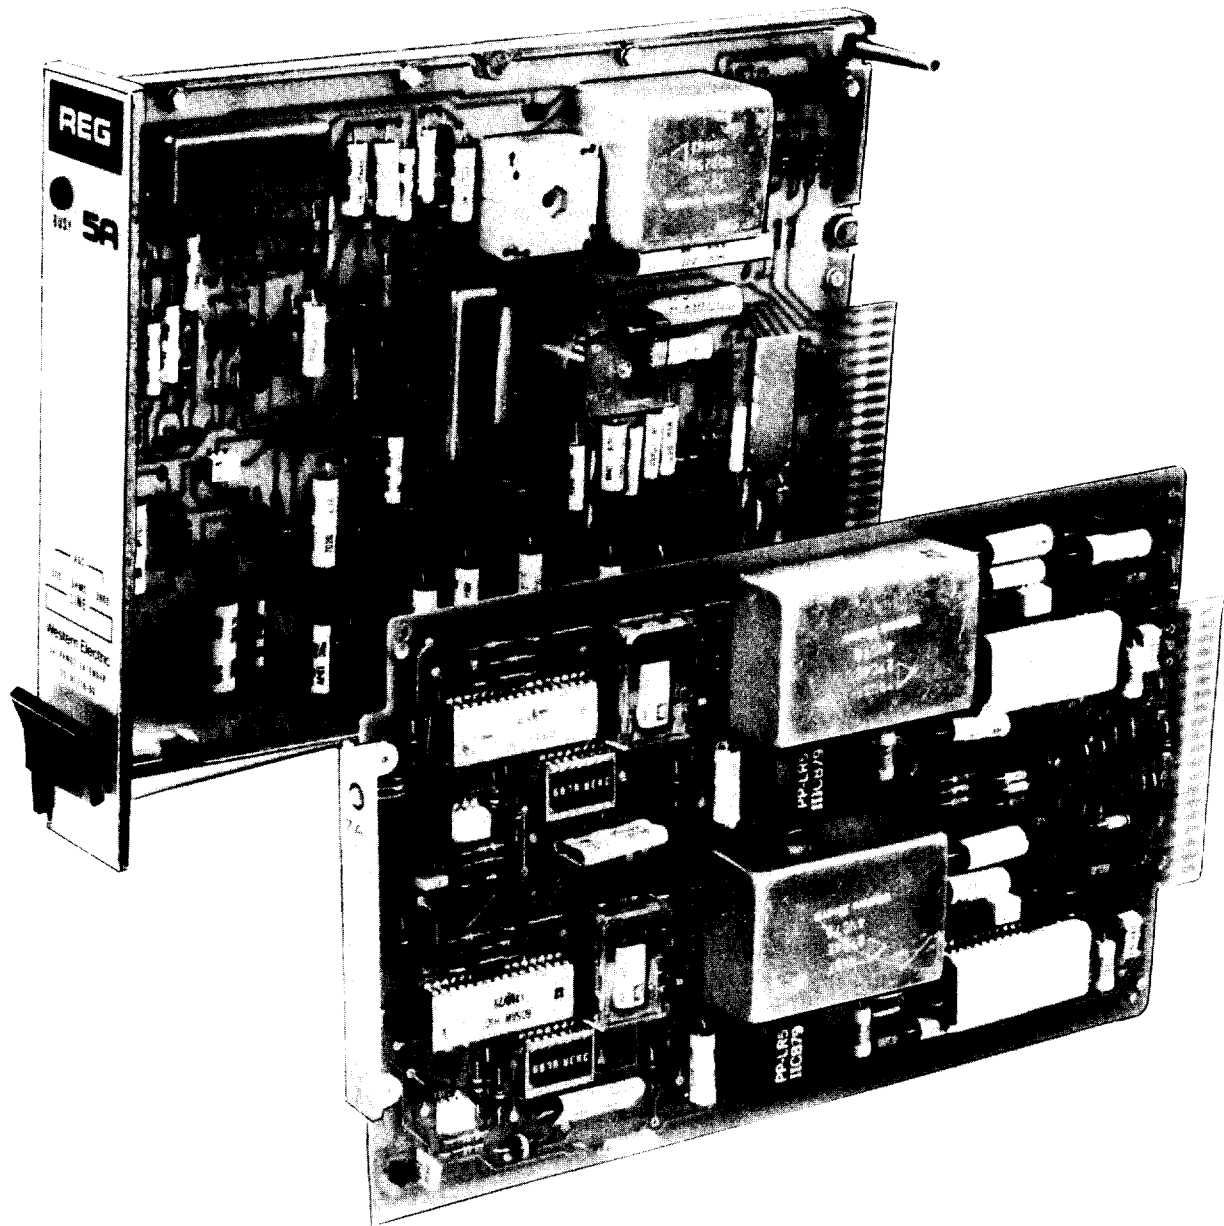

Fig. 3—Comparison of 7A REG to 5A REG
2.06 The 7A REG is similar in function to the 5A REG. The 7A REG, however, consists of entirely new circuitry with thin-film and silicon integrated components. The 7A REG has two range extension circuits per unit and is assembled on an epoxy glass board and has a plastic faceplate. The plug-in is approximately 6 inches high, 10-1/2 inches deep, and 1 inch wide. The plug-in is shown in Fig. 3 alongside a 5A REG for comparison. The 5A REG contains one circuit per board; the 7A REG contains two range extension circuits in half the space.